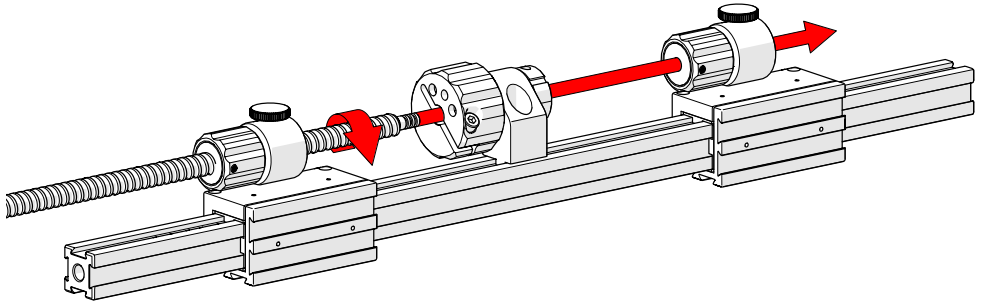

Fig. 129 - Screw leadscrew into place
4. Screw the leadscrew into the first slider, then the main knob and finally the 2nd slider assembly (Fig. 129).